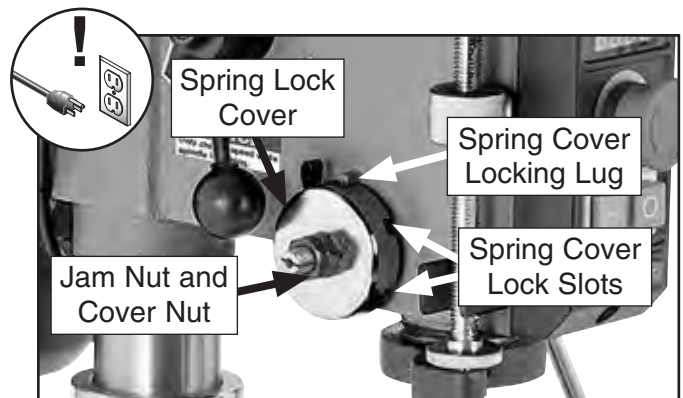

Figure 55. Spindle return spring assembly.
3. Wipe any oil off spring lock cover so it does not slip in your fingers when you hold the cover from spinning (see **Figure 55**).
4. Hold spring lock cover against side of headstock so the cover stays splined with locking lug, as shown in **Figure 55**, then loosen jam nut and loosen cover nut approximately 1/4" each.
5. Wearing gloves, pull spring cover (see **Figure 55**) outward just enough to disengage spring-cover lock slot from locking lug.
7. Engage next available spring-cover lock slot with locking lug (see **Figure 55**) and hold spring lock cover tightly to side of headstock.